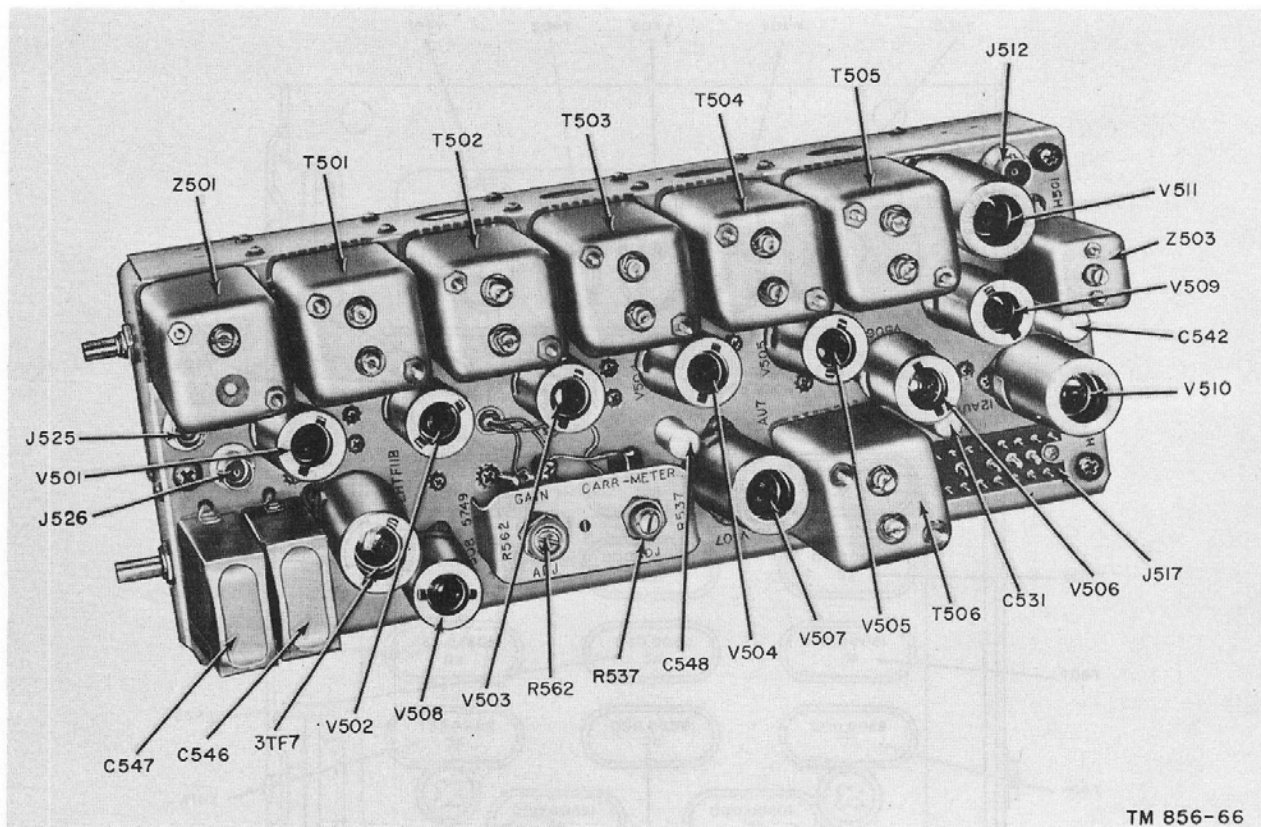
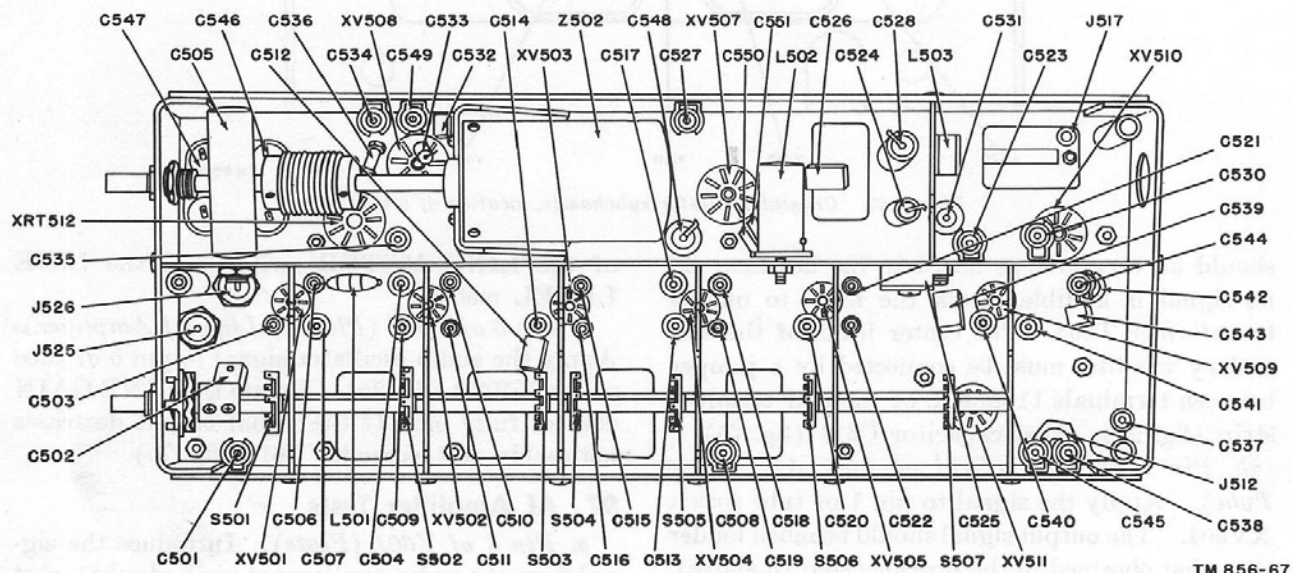
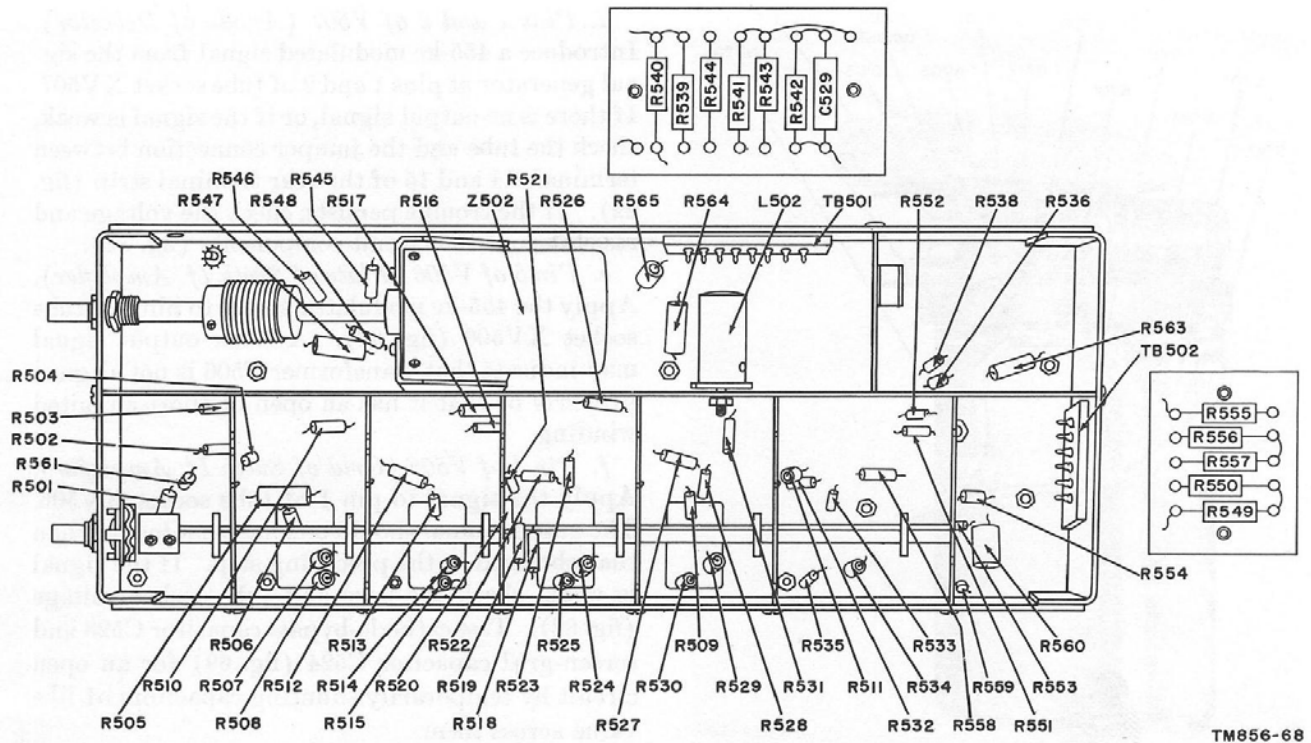

Figure 68. If. subchassis chassis, top view.
Figure 69. If. subchassis, bottom view.
Figure 70. If subchassis, location of resistors.
a. *Pins 1 and 2 of V510 (Anode of Positive-Peak Limiter)*. Introduce an af signal at pins 1 and 2 of tube socket XV510 (fig. 69). If no signal is audible, or if the signal is weak, check capacitor C529 (fig. 70). Check the seating of connectors P117 and P119 in connectors J517 and J619, respectively (figs. 68 and 74).
b. *Pin 3 of V510 (Cathode of Positive-Peak Limiter)*. Apply the af signal to pin 3 of tube socket XV510. A weak signal may indicate that V510 is defective or that resistor R542 or R544 is open (fig. 70).
c. *Pins 6 and 7 of V507 (Anode of Negative Peak Limiter)*. Apply the af signal to pins 6 and 7 of tube socket XV507 (fig. 69). If the signal is weak, check V507 and resistor R541.
e. *Pin 5 of V506 (Plate of Sixth If. Amplifier)*. Apply the 455-kc modulated signal to pin 5 of tube socket XV506 (fig. 69). A weak output signal may indicate that transformer T506 is not aligned properly or that it has an open or short-circuited winding.
f. *Pin 1 of V506 (Grid of Sixth If. Amplifier)*. Apply the signal to pin 1 of tube socket XV506. The output signal should be somewhat louder than that obtained in the preceding step. If the signal is weak, check the tube and tube socket voltage (fig. 82). Test cathode-bypass capacitor C523 and screen-grid capacitor C524 (fig. 69) for an open circuit by temporarily shunting capacitors of like value across them.
MGC, turn the RF GAIN control fully on, and set the BANDWIDTH switch at the 4-KC position. Apply the 455-kc modulated signal in turn to pins 5 and 1 of the tube socket of the first five 455-kc if. amplifiers, proceeding from the fifth stage to the first (fig. 69). Correct any faults found in a stage before proceeding to the next.